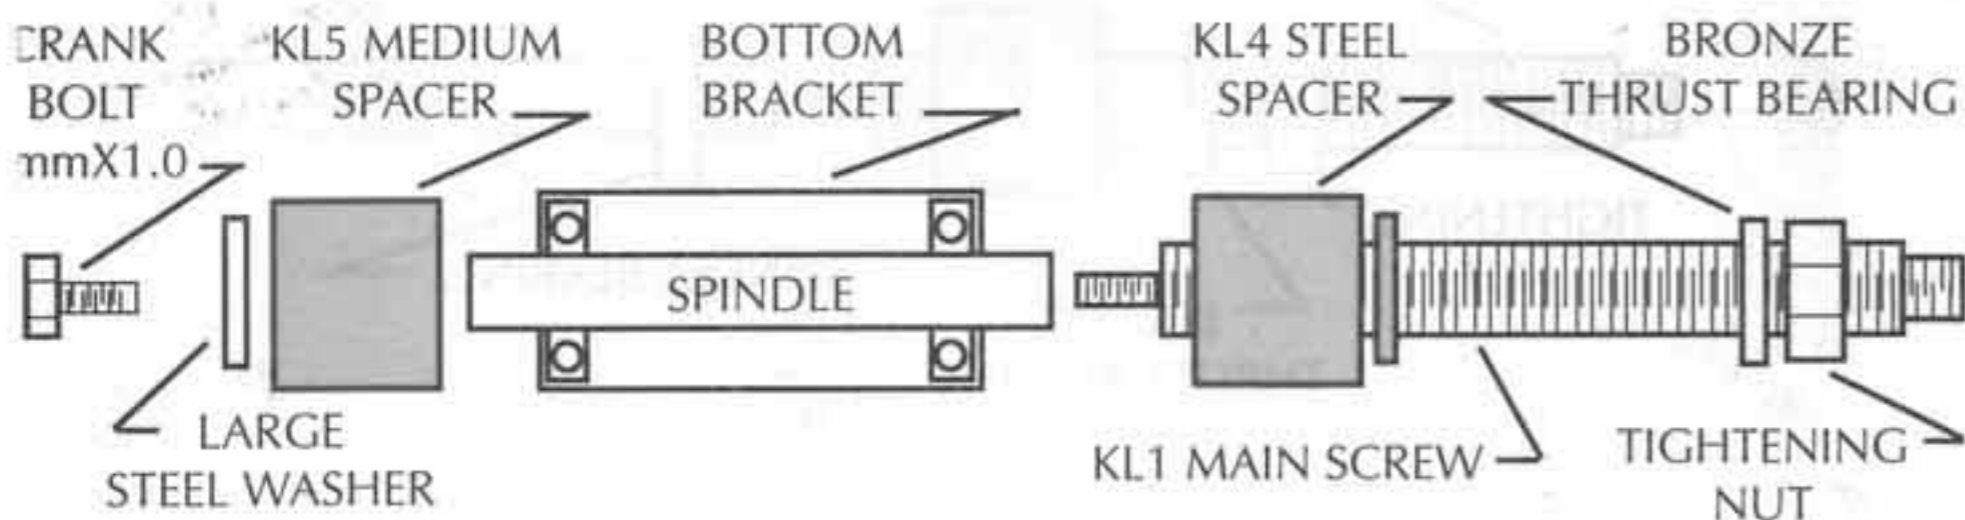

FIGURE 3
2. Put a thin coat of RC 680 loctite on all remaining contact areas ie. (outside non-drive side bearing, inside and outside of drive side bearing, inside edge of the bottom bracket shell, and drive side of the spindle where bearing will seat). From the non-drive side insert the spindle through the bottom bracket shell. Place the outer bearing onto the spindle on the drive side. Install the main screw (KL1) into the spindle until snug. See figure 3.
4. Slide on the bronze thrust washer and then thread on the tightening nut. See figure 3.